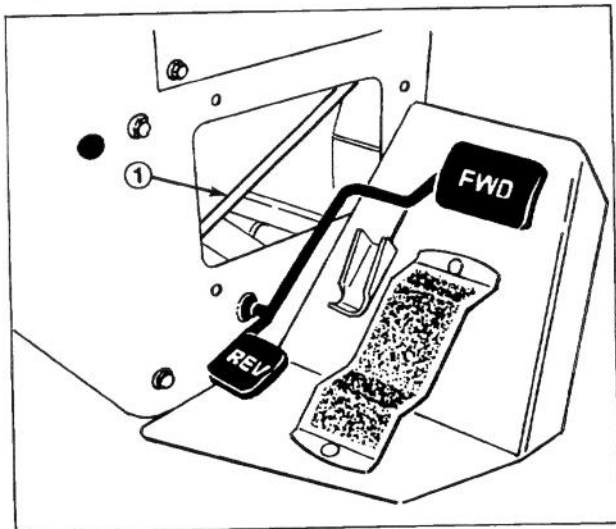

Figure 44
2. Loosen jam nuts on each end of traction rod (Fig. 44).